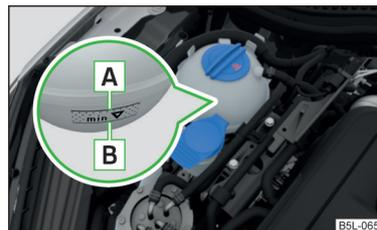

Fig. 162
The description of the coolant is shown in the coolant expansion reservoir » Fig. 162 on page 185.
- Do not fill the coolant above the mark **A** » Fig. 162 on page 185.
Coolant expansion reservoir » Fig. 162
➤ Check the coolant level in the coolant expansion tank » Fig. 162.
If the engine is warm, the test result may be inaccurate. The level can also be above the mark [A] » Fig. 162.